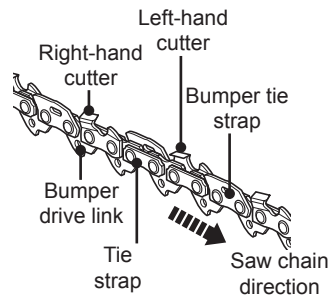

Fig. 49
2. The height difference between the tooth and the ridge is the cutting depth. When sharpening the saw chain (10) you have to consider the following points (Fig. 49).